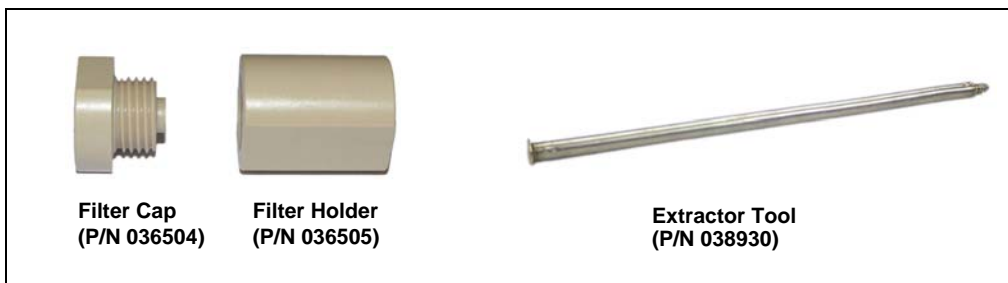

Figure 8. Filter Cap, Filter Holder, and Extractor Tool
3. Unscrew the filter cap from the filter holder (see Figure 8).